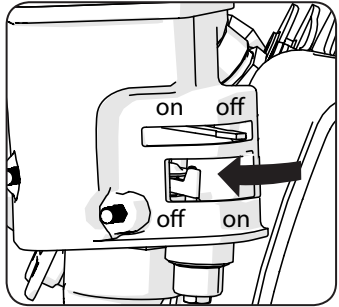

Fig 16
- Allow the engine to come to a complete stop and turn the fuel tap to the 'OFF' position. (Fig. 16)